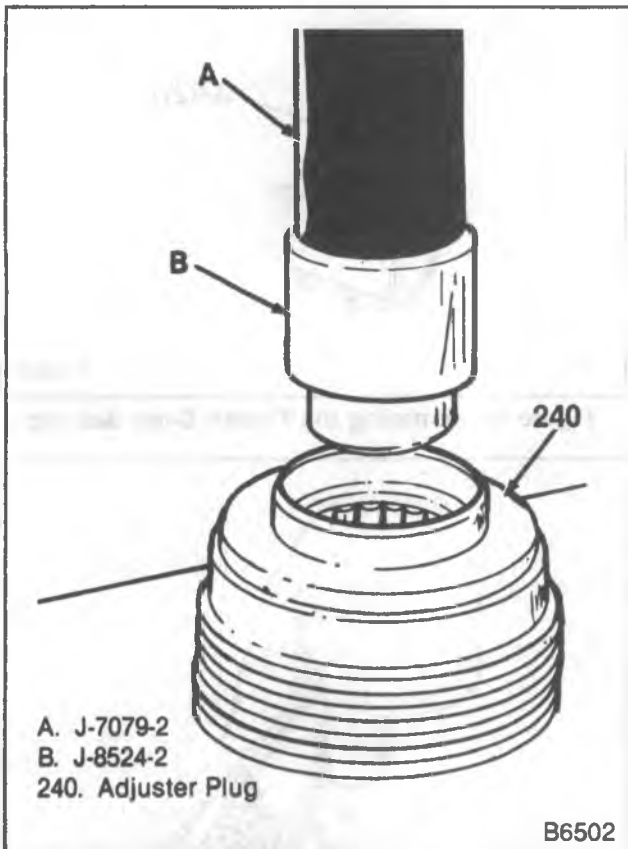
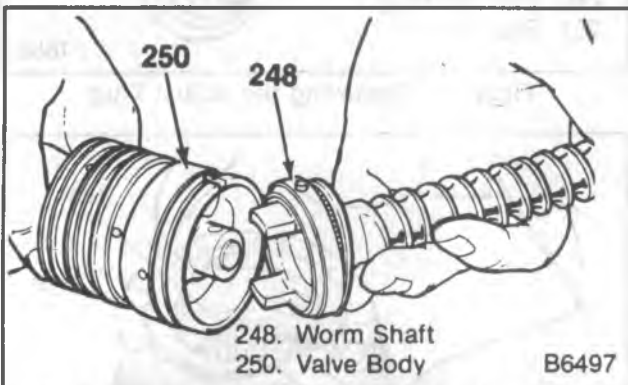

Figure 8—Removing the Needle Bearing
Figure 9—Separating the Wormshaft from the Valve Assembly
- Seal (239) and needle bearing (241). Use J 8524-1 and J 7079-2 (figure 8).
14. Valve (250) and wormshaft (248) as an assembly, with both races (246) and bearing (247).
- Wormshaft (248) from valve assembly (figure 9).
- Races (246) and bearing (247) from the wormshaft (248).
- Seal (249).